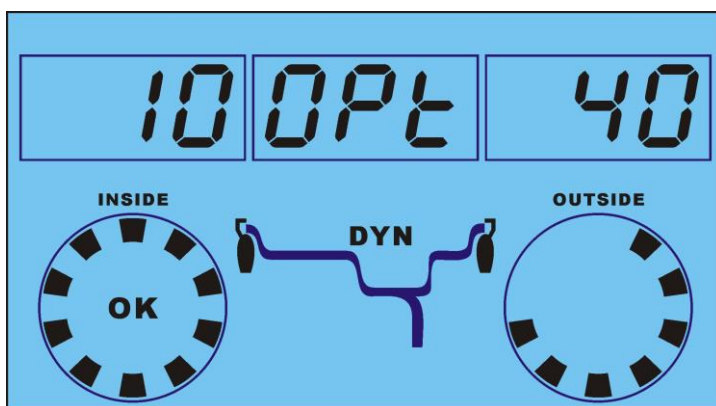

Fig. 4
4.7. Anticlockwise moving wheel slowly, the displays with left LED's lit up full indicate the correct angular position where to mount the counterweights (12 o'clock position) inside, as Fig.4.